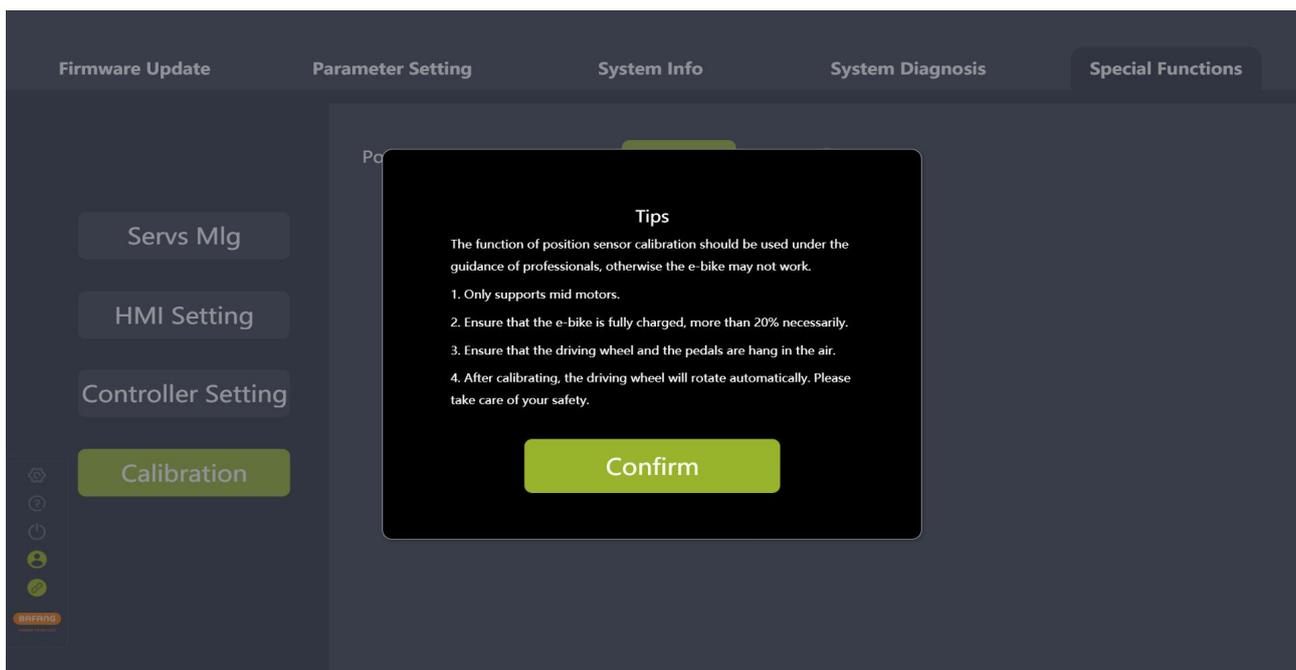

Fig. 8-9 Tips
- (3) There is an icon to the right of "Position Sensor Calibration" and click it to view the tips (Fig. 8-9).